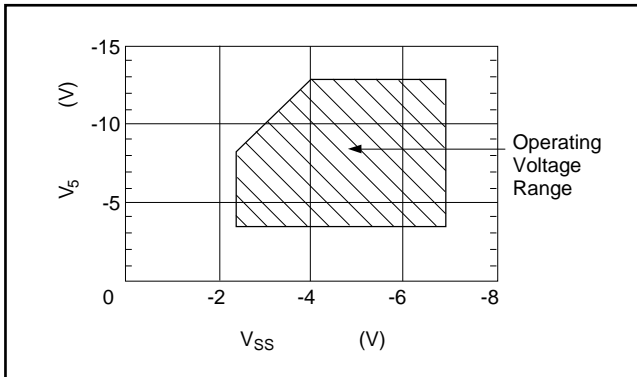

Figure 5.4
- \*10. Operating voltage ranges of VSS and V5 (see Figure 5.4).